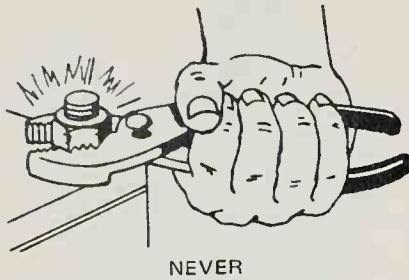

Figure 2-16. Pliers will damage a nut or bolthead. (Sears, Roebuck & Co.)
14. Never use a pair of pliers as a wrench, because you will damage the bolt head or nut (Figure 2-16). Sometimes, with caution, you can turn a bolt or nut without damage if it is loose.